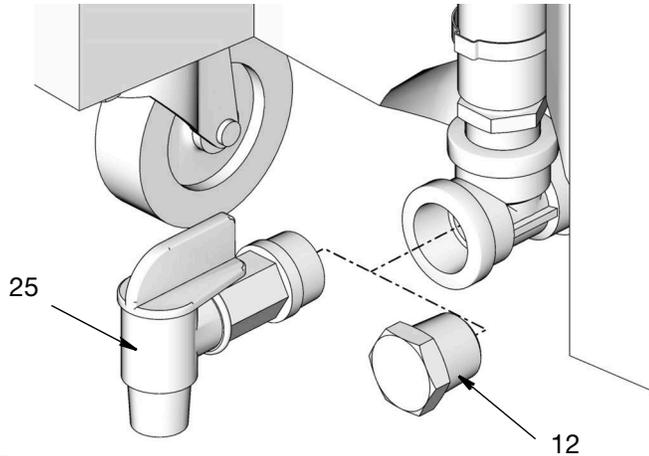

FIG. 1
- For evacuation systems, be sure the drain plug (12) is installed (also see instruction manual 308719.)
- For gravity fed systems, remove drain plug (12) and install drain valve (25).
NOTE: In FIG. 1 the drain valve (25) is shown in the closed position. To open it, rotate the handle so it points away from the drum.
Before you add any fluid to the drum, verify the pipe plug (12) or drain valve (25) is installed and the drain valve handle is closed (facing toward the drum) (FIG. 1, page 4).
When drum is full, drain fluid by removing pipe plug (12) (see the Evacuation System instruction manual 308719) or rotate the drain valve handle (25) (FIG. 1, page 4) so it points away from the drum and empty contents into an approved disposal container.